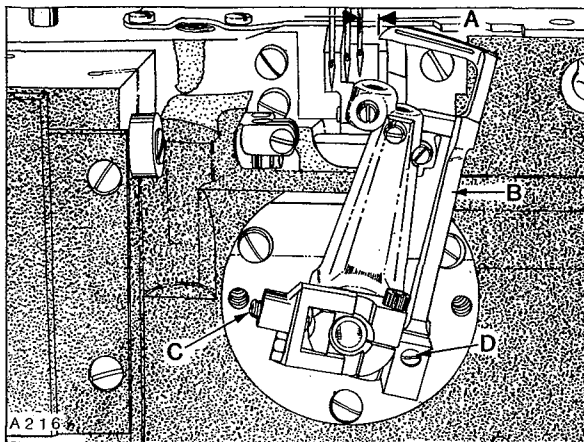
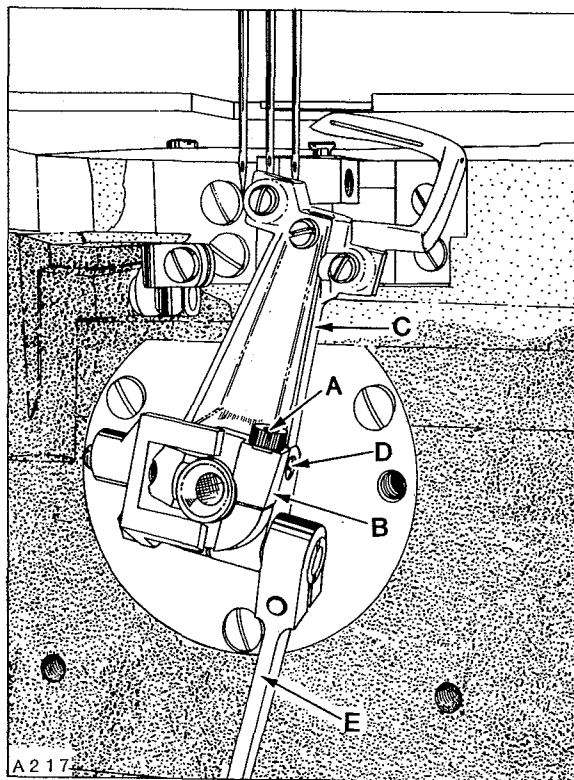

Fig. 10
Fig. 11
If not previously done, insert a new set of needles; type and size specified. With looper holder at EXTREME right end of travel, distance from centerline of RIGHT needle to point of RIGHT looper should be dimension (A, Fig. 10); see chart. Adjustment can be made by pulling release lever (B) down and loosening screw (A, Fig. 11) in stop collar (B). Apply pressure against the upper portion of looper holder (C) to the LEFT while turning screw (D) in looper holder clockwise to increase looper gauge or counterclockwise to decrease. Applicable looper gauge can be used advantageously in making this adjustment.
Continue to apply pressure against upper portion of looper to the LEFT while turning stop collar (B) to its EXTREME CLOCKWISE position and tighten screw (A) securely. Push up release lever (E) to lock looper holder in position. Adjust screw (C, Fig. 10) which incorporates a spring plunger, against the recess in cam of stop collar as required to attain the following conditions:
In locked position, the release lever should be approximately in line with middle looper as viewed from the right side of looper holder. Adjustment can be made by loosening screw (D, Fig. 10), reposition release lever as required and retighten screw.
Loopers must also be set so, as they travel to the left behind the needles, NOT to touch, but with a **MAXIMUM** clearance of .002 inch (.051mm). Adjustment can be made by pulling release lever down, loosening screw (A, Fig. 11) in stop collar (B) allowing looper holder to be moved forward or rearward on its shaft, as required. Apply pressure against upper portion of looper holder to the **LEFT** while turning stop collar (B) to its **EXTREME CLOCKWISE** position and tighten screw (A) securely and push release lever up in locking position. **RECHECK** looper gauge.
| MACHINE STYLE | DIMENSION A FIG. 10 | LOOPER GAUGE NO. |